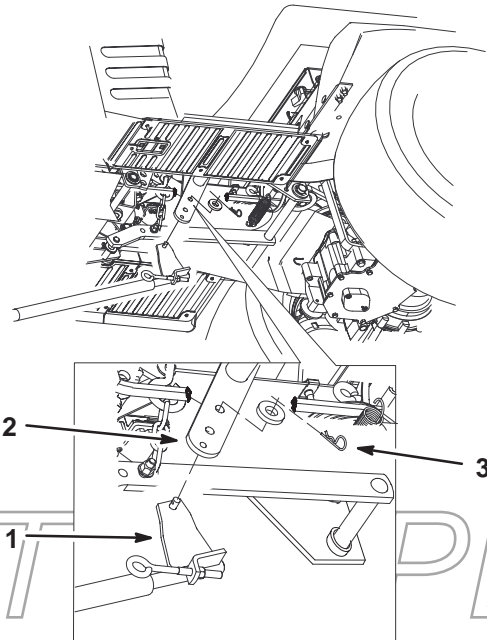

Figure 17
6. Install the lift tube to the attachment lift with a hairpin cotter pin (Fig. 17).